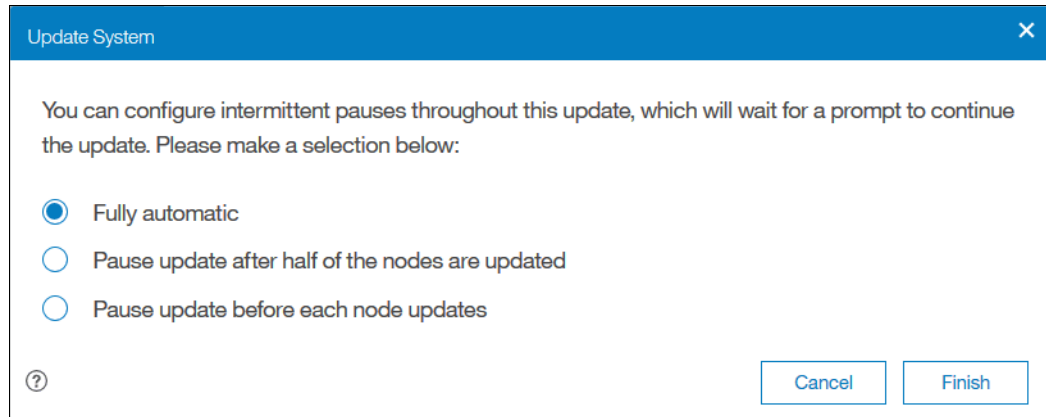

Figure 12-34 Fully automatic
3. Select **Automatic update** and click **Next** to come to the next question regarding paused update, as shown in Figure 12-34 on page 654. The **Automatic update** option is the default and advised choice.
Shown in Figure 12-34 on page 654 you can choose if you want to pause the update or not. Default is **Fully automatic**. Click **Finish** to start the update